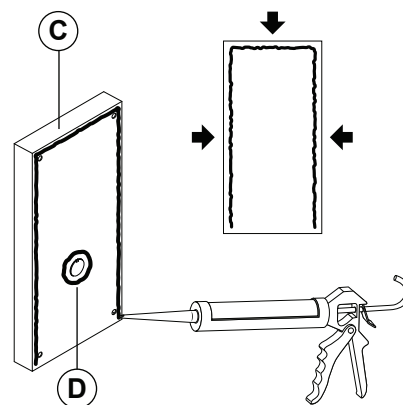

Fig. 49
**In order to prevent water ingress we highly recommend using a silicon sealant between the wall and the back box **(C)**, ON THE LEFT, TOP AND RIGHT SIDES ONLY AND AROUND ALL THE HOLES **(D)** . DON'T USE SILICON SEALANT ON THE BOTTOM SIDE OF THE BACK BOX (**Fig.49**);**